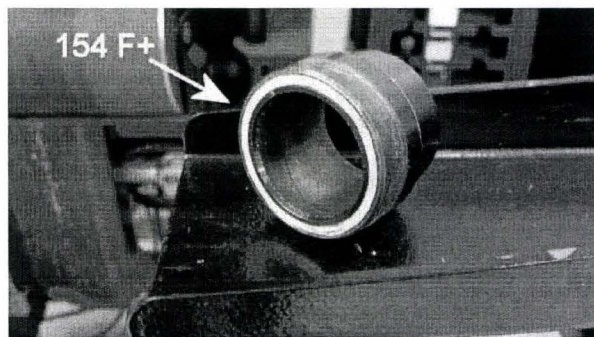

Figure 2
- For Hunter GSP 9712 (or similar) use the White faced adaptor cone with identification code 154 F+ shown in Figure 2, **NOTE:** If your Workshop does not have this particular adaptor please contact your local Hunter representative.